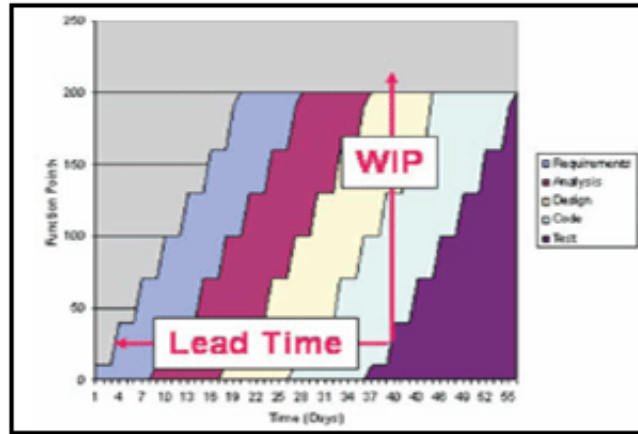

Figure 1: Cumulative flows for a software development environment (Diagram from article by David Anderson, May 2005, Using Cumulative Flow Diagrams).
Figure 1 shows such a cumulative flow diagram within a software environment, clearly showing how the flow of each process is "balanced" to the demand.
1. Little's Law states the Average Inventory within a system is equal to the Average Lead-time or Flow Time multiplied by the Average Throughput or Flow Rate. Simply put, the inventory is directly proportional to the lead-time for processing that inventory. Figure 1 also shows how to read the WIP inventory and Lead-times directly from the CFD. The total lead-time a "job" spends in the system is the horizontal difference between the arrival of that job in the system and its departure some time later. The total WIP in the system is the vertical difference between the job arrival graph and the job departure graph.
2. Figure 1 also demonstrates how batch sizes and batch transfers affect the cumulative flow plot. The large transfer batch can be clearly seen from the jaggedness of the plot. With larger transfer batch sizes, there is more WIP and longer lead-times. With smaller batch sizes [as in Figure 2], WIP is reduced and lead-time falls accordingly. Note the smoothness of the plot in Figure 2. The lead-times can be clearly read from the diagram.